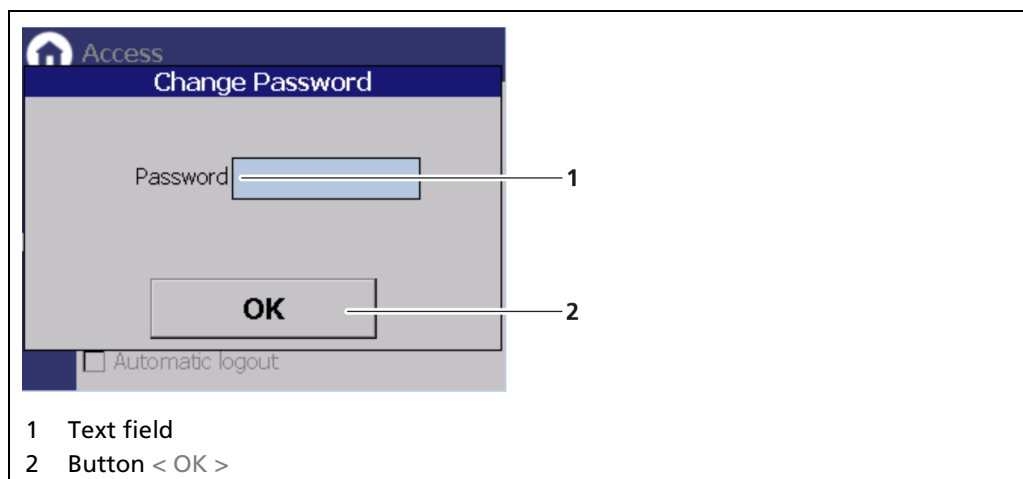

Fig. 36 Change password
1. Click on the text field (Fig. 36, item 1.) to open the input field.
4. Click <OK> (Fig. 36, item 2) to confirm.